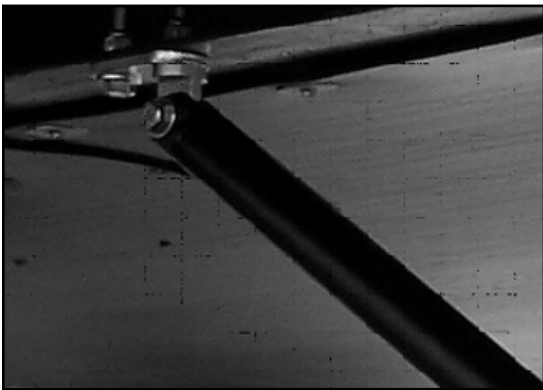

Fig.9
6. Drill remaining mounting hole and secure with a 3/8"-16 x 1 1/2" bolt, 3/8" washer, and 3/8" locking nut. Repeat this step for opposite side (Fig. 9).